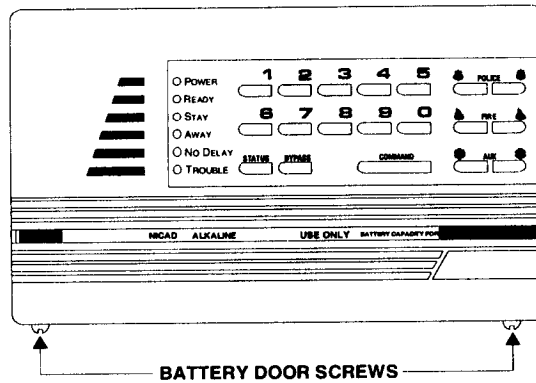

Figure 3. Loosen the two battery door screws
2. Loosen the two screws on the bottom of the Panel until you are able to slide the door down and out (see Figure 3). Two full turns should be enough to allow you to remove the battery door without removing the screws completely.